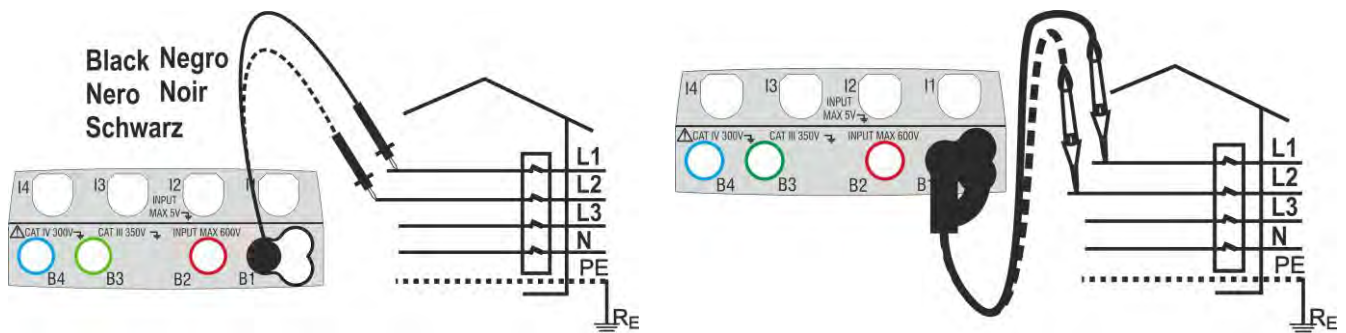

Fig. 23: Phase sequence check of 1T phases with terminal and remote lead
- Insert the blue and black connectors of the single cables in the corresponding input terminals of the instrument B4, B1 (2T measurement). Insert in the free end of the cables the corresponding alligator clips or tips. It is also possible to use the remote lead by inserting its multipolar connector into the input lead B1. Connect the alligator clips, the tips or the remote lead to phase L1 and N according to Fig. 23 and Fig. 24.
Under these conditions, connect the alligator clips, the tips or the remote lead to phase L2 and N in accordance with Fig. 23 and Fig. 24.